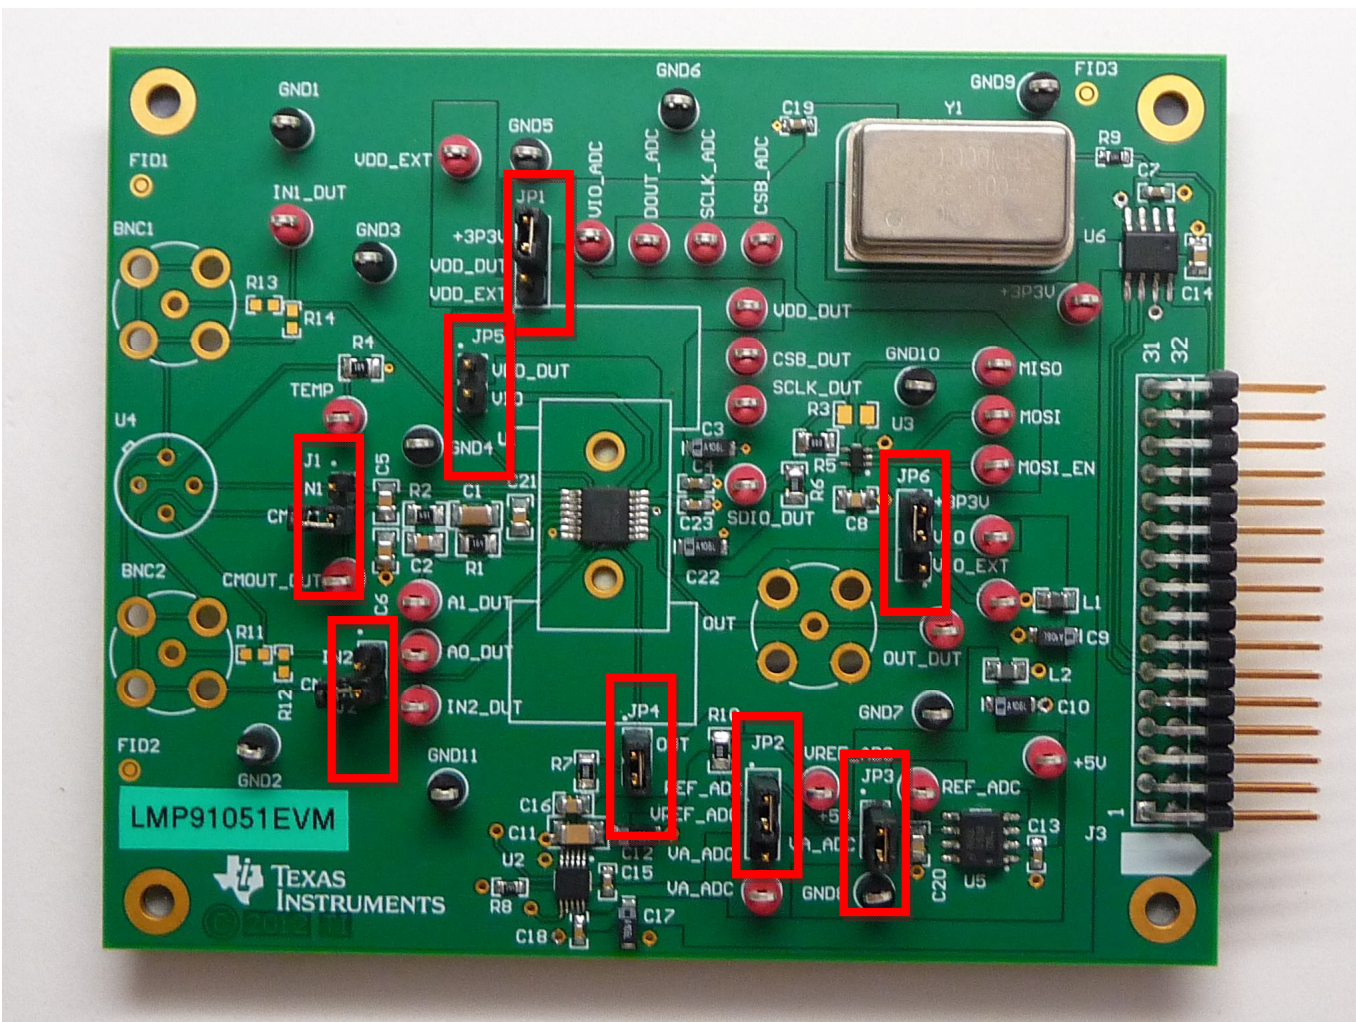

Figure 2: Jumper Setting (Default) for voltage reading
1. The jumpers for this example application can be seen in Figure 2 and Table 1.